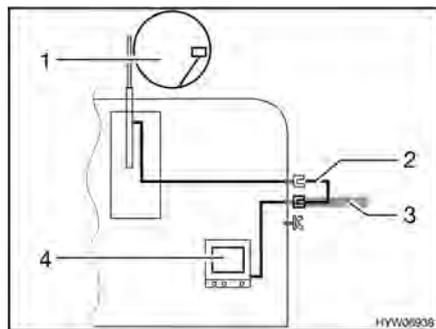

Fig. 148 TV inside the vehicle
- TV inside the vehicle (Fig. 148,4): Connection to roof antenna (Fig. 148,1) with connection cable (Fig. 148,2)
- TV inside the vehicle (Fig. 148,4): Connection to external antenna (Fig. 148,3)